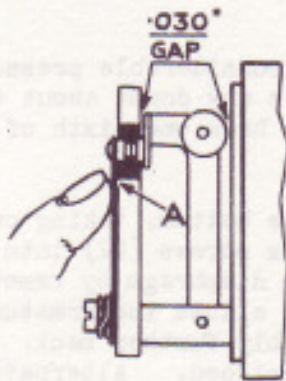

FIG. 5. SHOWING THE SPRING BLADE (2) BEING PRESSED IN AGAINST THE LEDGE AT "A" SO THAT THE OUTER ROCKER CLEARANCE CAN BE MEASURED.
The spring blade should be fitted next to the bakelite pedestal, followed by the tag, then the spring washer and finally the screw. Make sure that the tag is turned the right way round or it may "short" to the terminal screw (9). The spring blade should rest against the ledge (A Fig.5) on the pedestal when the points are apart and it must not be stiff enough to prevent the outer rocker from coming right forward when the points are in contact. The points should just make contact when the outer rocker is in its mid-way position. The simplest way to check this is to hold the blade in contact with the ledge on the pedestal (as shown in Fig.5), being careful not to press on the overhanging portion, and then ascertain that a thirty thousandths of an inch (.030") feeler can just be passed between the white rollers and the cast iron